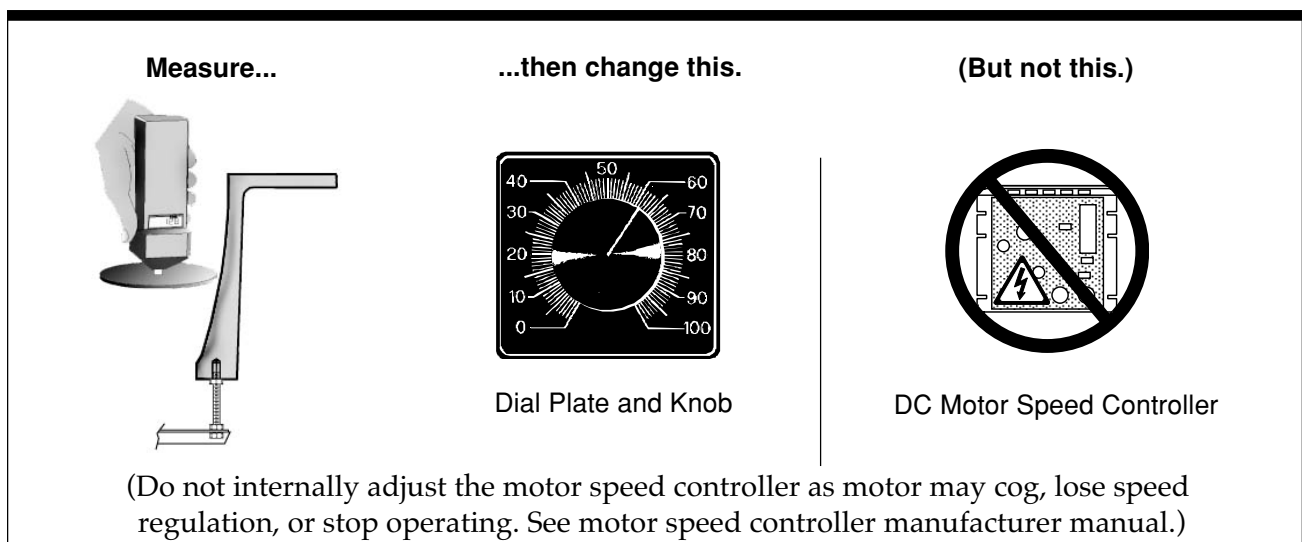

Figure 3-1. Measuring and Changing Bowl Speed
► You will need a hand-held tachometer (analog or digital) with a surface speed wheel indicator (see Figure 3-1).